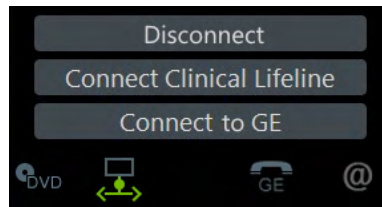

Figure 7-12 Connect Clinical Lifeline
4. Select **Connect Clinical Lifeline** (see: Figure 7-12 below). This activates “Disruptive Mode” and “VCO” for the application OLC to quickly assist the customer.